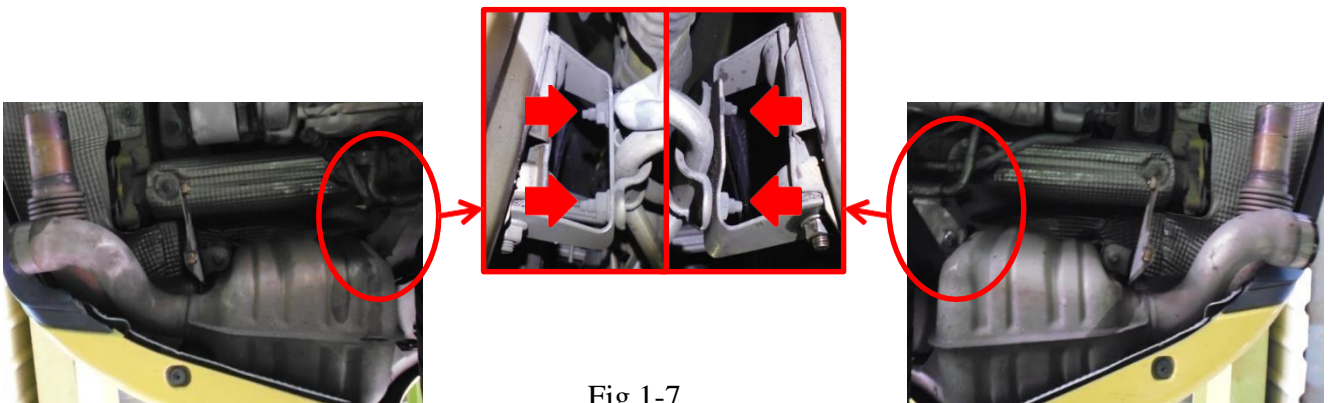

Fig 1-7
7. Use the 13mm hex wrench to remove the left and right muffler fixed rack. (Fig1-7)